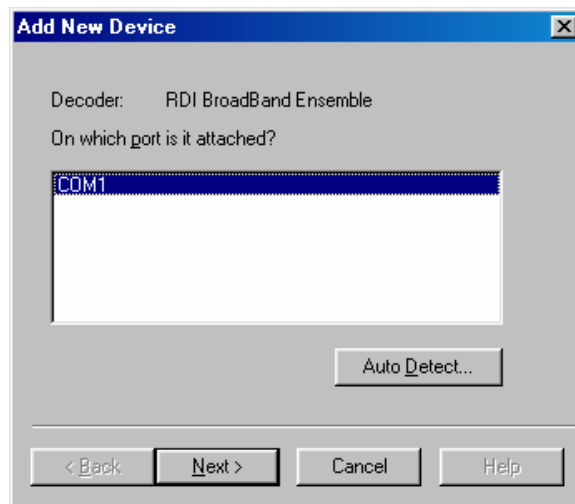

Figure 2. Setting the Communication Port
- d. Select the COM port that the ADCP is connected to (see Figure 2). If you are unsure of the setting, use **Auto Detect**.